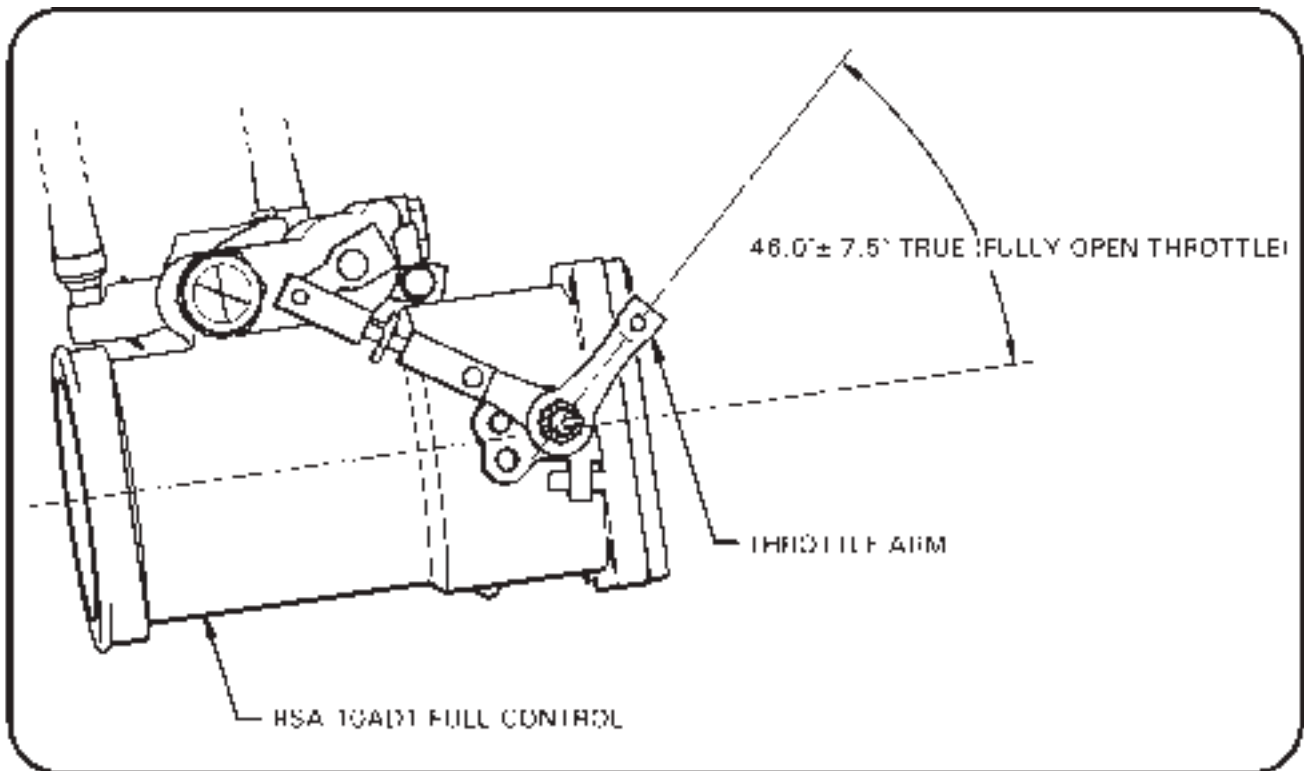
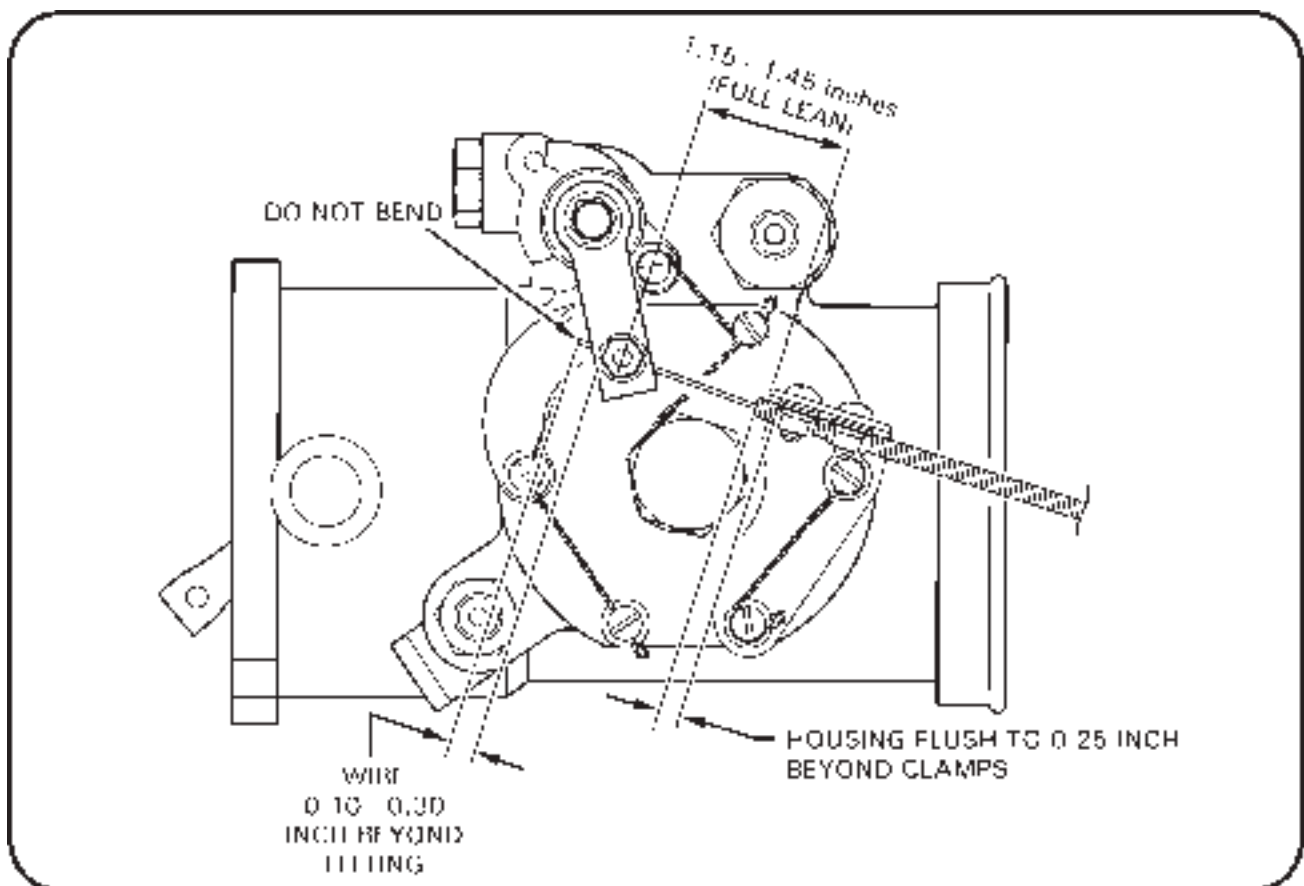

FIGURE 6-7 IO-540 THROTTLE ARM ADJUSTMENT
FIGURE 6-8 IO-540 MIXTURE CABLE INSTALLATION
3. Verify correct full-open throttle arm angle per Figure 6-7 and full-lean mixture arm distance per Figure 6-8. Adjust as required.
8. Refer to Figure 6-8. Connect mixture cable housing to bracket with housing flush-to-0.25 inch extended beyond clamps. Connect mixture control cable inner wire to mixture control arm. Ensure A130 spacer lubricated with A257-1 grease. Verify full travel and 0.03-0.10 inch clearance under mixture control knob when full rich. Mixture control inner wire should protrude 0.10-0.30 inch beyond A462 fitting securing wire to mixture control arm and control wire. If wire cannot rotate relative to mixture arm the A130 spacer in fitting may be missing or damaged; replace as required.